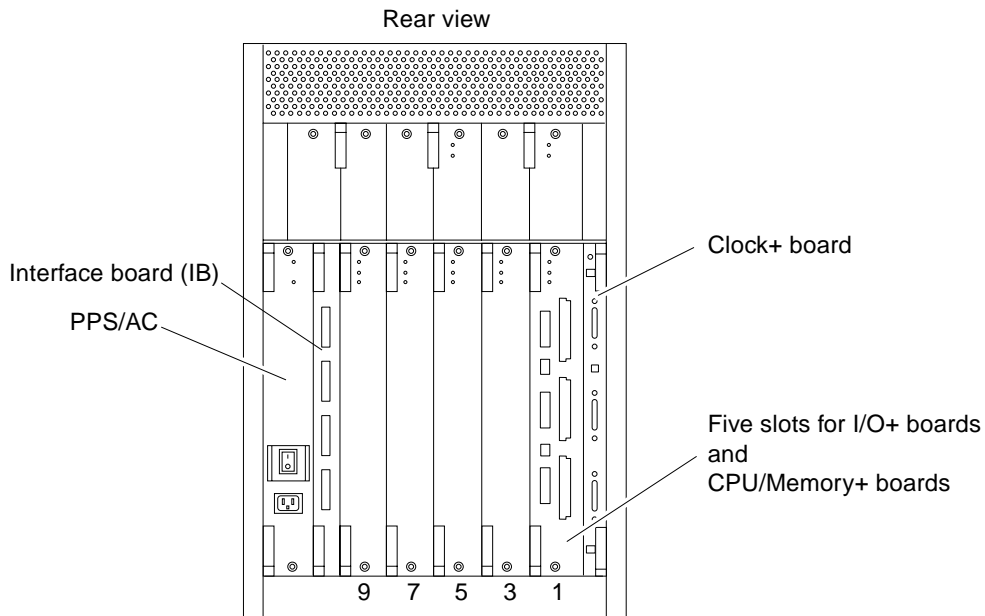

FIGURE D-1 Board Slots and AC Power Supply
In the card cage (FIGURE D-1), board slots are numbered from right to left: 1, 3, 5, 7, and 9.¹
1. **Requirement** — Reserve slot 1 for an I/O+ board (FIGURE D-1). This is the only slot that allows direct access to the internal SCSI devices.
1. There is a slot for one Interface Board (IB) in the system (FIGURE D-1). The IB provides circuitry for disk drives using Fibre Channel Arbitrated Loop (FC-AL) interfacing.
1. When configured at the factory, a CPU/Memory+ board is installed in the second slot (slot 3) of the five board slots (FIGURE D-1.) As noted earlier, slot 1 is reserved for an I/O+ board.